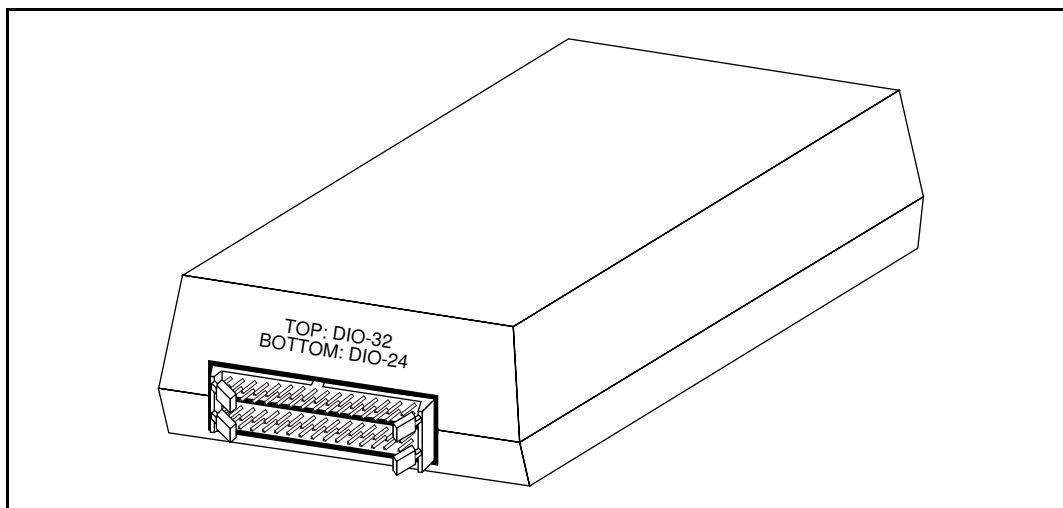

Figure 2-2. The ER-8/16 Front Connector
3. Connect the 50-pin interfacing cable to the appropriate 50-pin connector located on the front end of the ER-8/16 as shown in Figure 2-2.